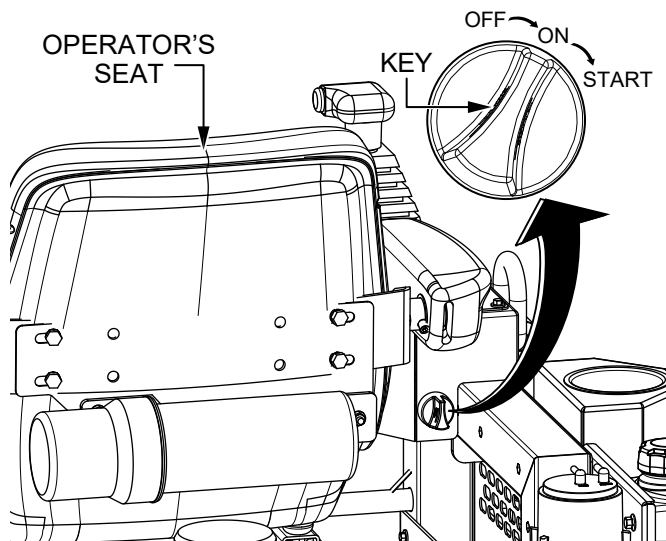
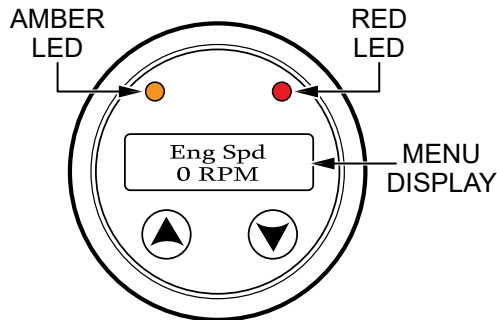

Figure 19. Ignition Key Switch
Figure 20. Diagnostic Display
1. Insert the **ignition key** into the **ignition switch** (Figure 19).
2. Turn the ignition key **clockwise** to the **ON** position (Figure 19). The **AMBER** and **RED LEDs** on the **diagnostic display** (Figure 20) will flash and the **menu display** will cycle through the preset parameters until the engine is started.
5. The diagnostic display's amber and red LEDs (Figure 20) will turn **OFF** if no engine or machine faults are present.